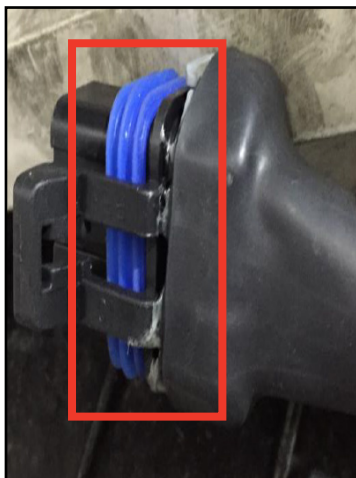

Figure 12 - Tubing Installation
- 1.25. Shrink the tubing with the heat gun (see Figure 12). Do not overheat since excessive heat could split the tubing and damage the connector.